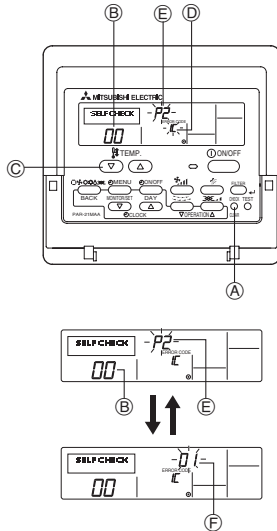

Fig. 7-3
7.3.1. Wired remote controller (Fig. 7-3)
- ① Turn on the power.
- ② Press the [CHECK] button.
- ③ Set refrigerant address with [TEMP] button if system control is used.
- ④ Press the [ON/OFF] button to stop the self-check.